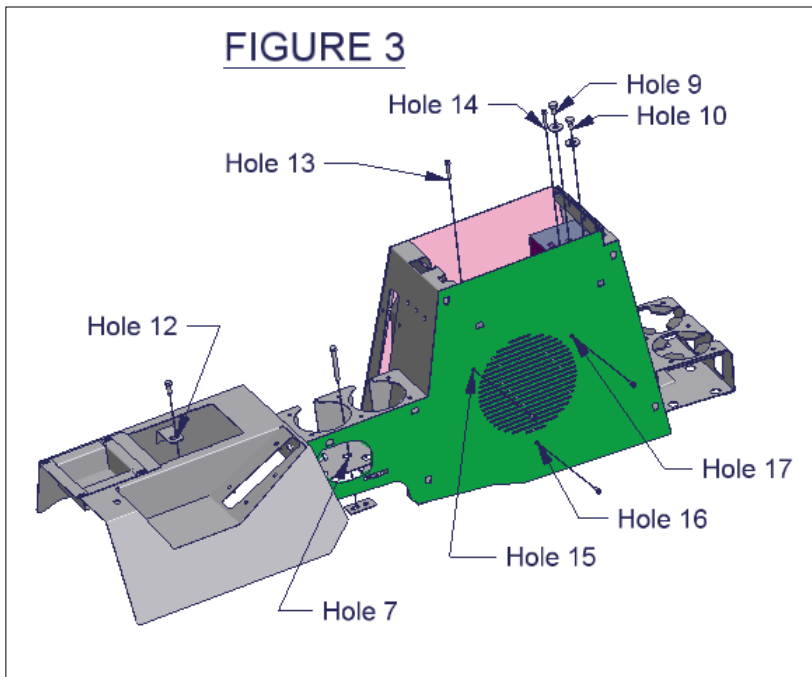

FIGURE 4
34. Attach the front shift lever console to the drink holder using (2) 1/4-20x1/2" Phillips pan head screws. (SEE FIGURE 4)